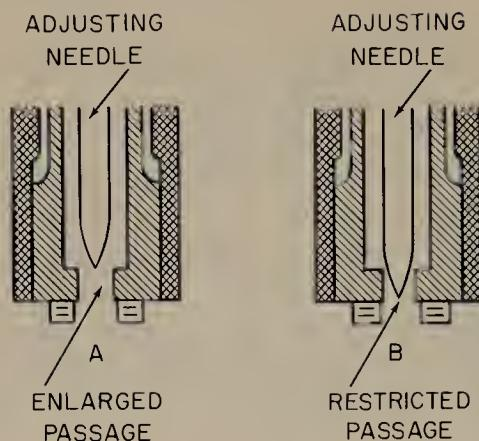

FIGURE 8.8 Carburetor adjustment needle and seat showing enlarged passage allowing more fuel to flow (A). Restricted passage allowing less fuel to flow (B).
8.8 Adjusting Mixture Richness. The mixture richness can be varied by turning the adjustment knob to raise or lower the adjustment needle (Fig. 8.2). If the adjustment needle is lifted away from its seat, then the fuel passage around the needle tip is enlarged and more fuel can flow. This means that there will be more fuel and that the air-fuel mixture will be richer. But if the adjustment knob is turned to move the needle tip toward its seat, then the passage is smaller and less fuel can flow (Fig. 8.8). In this case the mixture will be leaner.